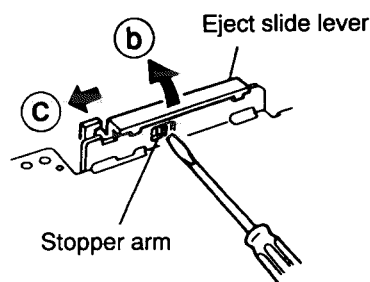

Fig.2-18
(See Fig.2-18)
1. Place the cassette mechanism back side frontward and disengage the stopper arm ① of the Eject slide lever by pressing it inwards through the opening of the chassis with a small screwdriver as shown in Fig. 2-18.
2. Disengage the Eject slide lever in the direction of arrow ②.